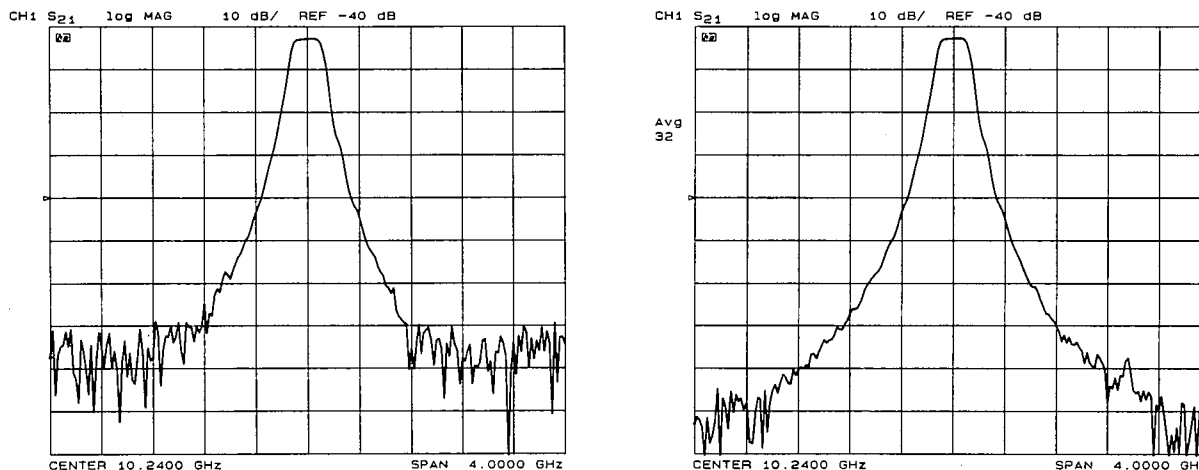

Figure 4-30. Effect of Averaging on a Trace
**Averaging** computes each data point based on an exponential average of consecutive sweeps weighted by a user-specified averaging factor. Each new sweep is averaged into the trace until the total number of sweeps is equal to the averaging factor, for a fully averaged trace. Each point on the trace is the vector sum of the current trace data and the data from the previous sweep. A high averaging factor gives the best signal-to-noise ratio, but in order to obtain a valid measurement with a specified averaging factor, it is necessary to wait for the number of sweeps to equal the averaging factor. Doubling the averaging factor reduces the noise by 3 dB. Figure 4-30 illustrates the effect of averaging on a log magnitude format trace.